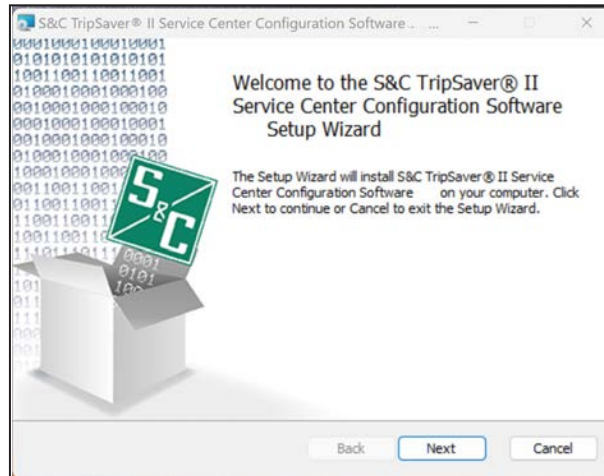

Figure 4. The SCC installation setup wizard.
- STEP 2.** After clicking on the **Install** button, wait for the installation to finish. The installer will automatically install the correct .NET framework onto the computer if .NET is missing. When .NET is successfully installed, the setup wizard for the S&C TripSaver II Service Center Configuration Software will open. See Figure 4 on page 11.